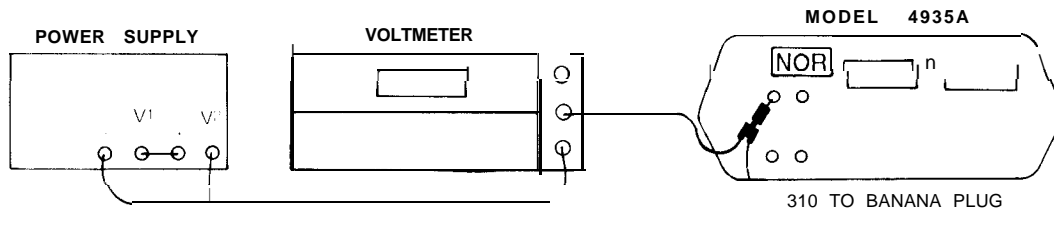

Figure 4-10. Hold Circuit Test
1. Connect equipment as shown in Figure 4-10).